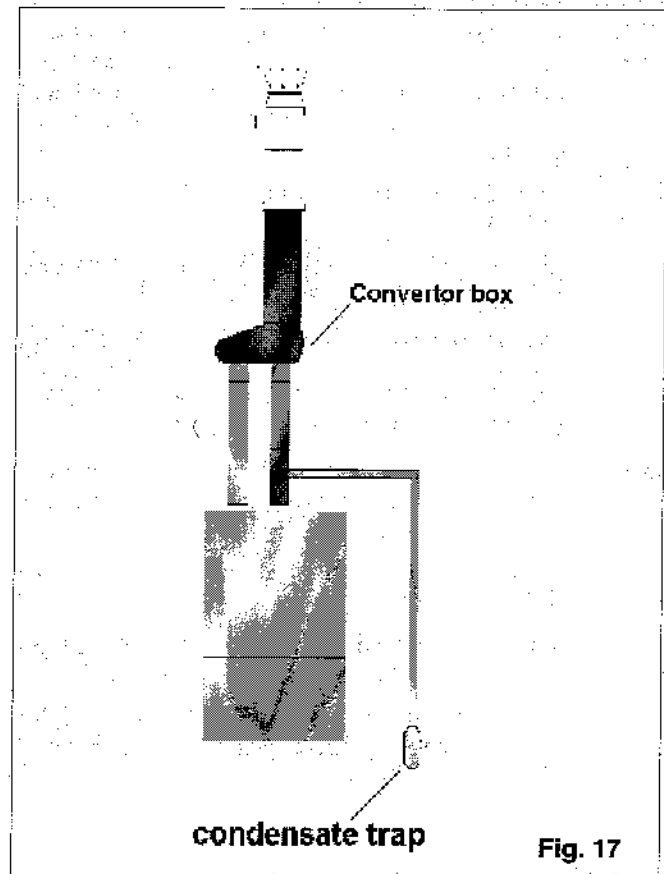

Fig. 17
5.5.3.3 HORIZONTAL TERMINATION (See fig. 17)